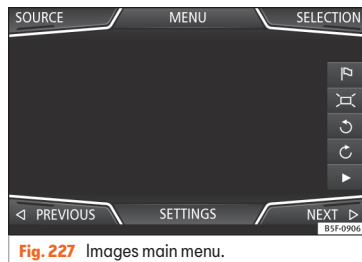

Fig. 227 Images main menu.
- Press the **SOURCE** »» Fig. 227 function button and select the data storage device where the images are stored.